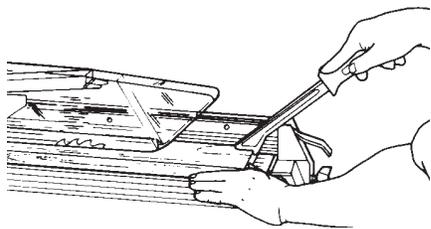

Figure A-4
- Use a push stick to guide stock 1-1/2" to 5" wide. Place the foot on top of the stock and hook the heel over the back edge. See Figure A-4.